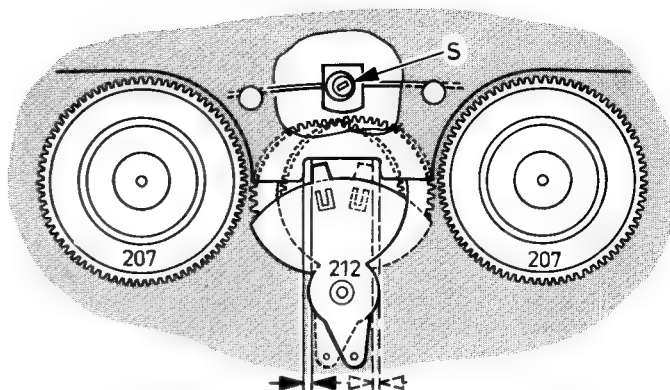

Fig. 2-5
- The right hand take-up turntable should be between the 1.2 and 1.6 Ncm (120 and 160 gFcm) measured with the flywheel rotated anti-clockwise. Adjustment is carried out by turning the metal spring on the slipping clutch pos. 214.
- Carry out preparation items 1 and 2.
- Using a 0.6 mm gauge (a piece of 0.6 mm (22 swg) tinned copper wire will suffice) between the back end of the swivelling lever carrying the idler wheel and the top plate (Fig. 2-5).